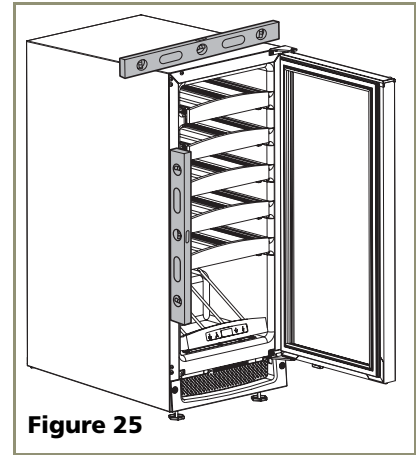

Figure 25
1. Use a level to check the levelness of the Wine Captain® from front to back and from side to side. Level should be placed along top edge and side edge as shown (see **Figure 25**).